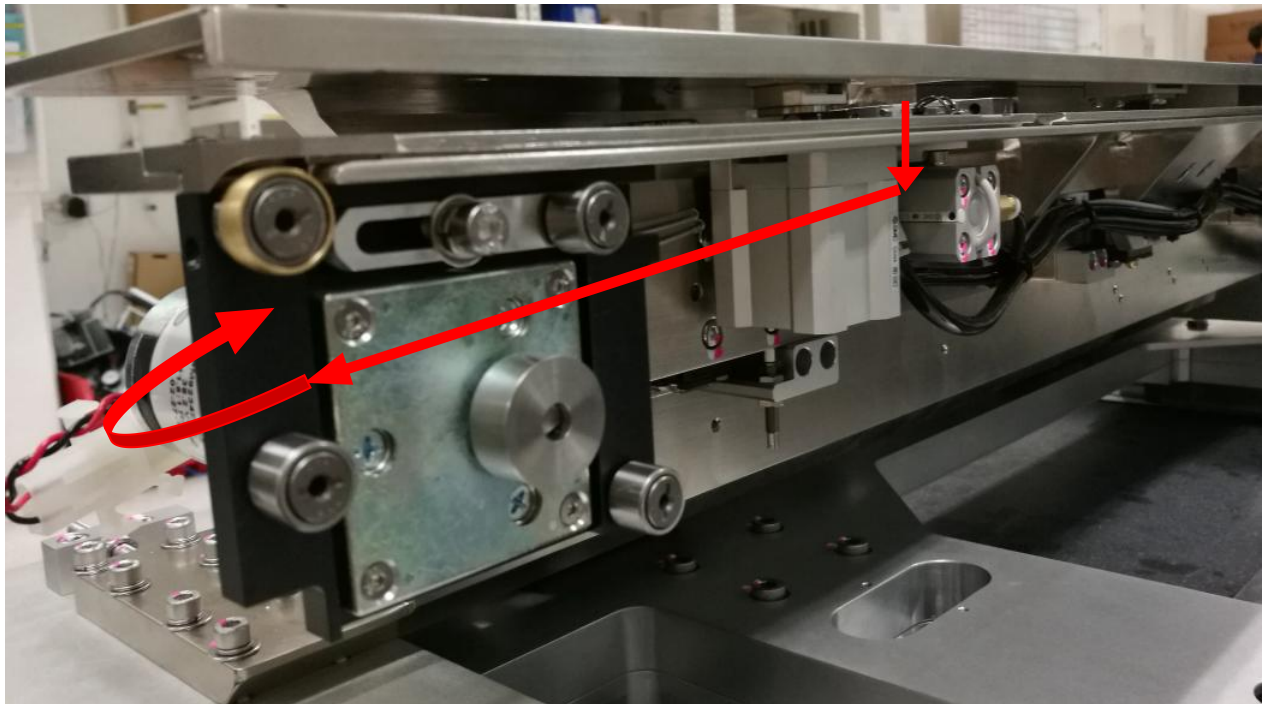
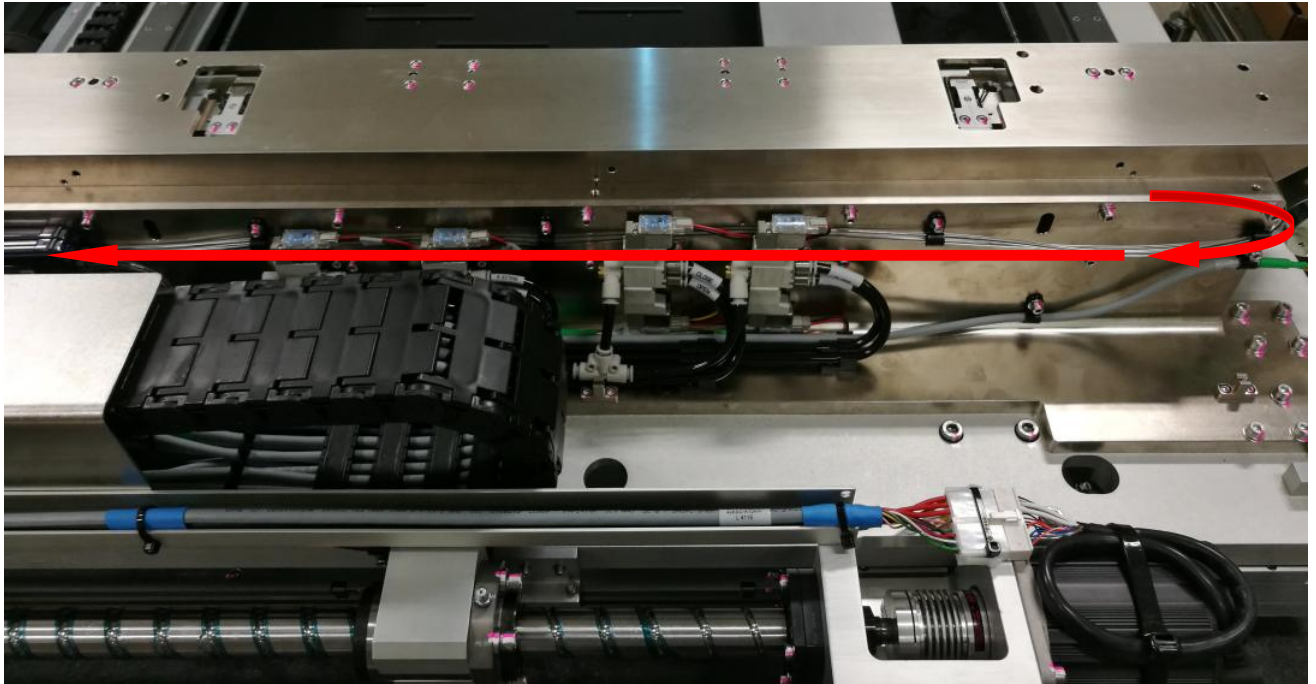

Figure 37 PIP Sensor Cable Routing
Figure 38 PIP Sensor Cable Routing
8. Route PIP Sensor Cable to Right amplifier by refer to below routing. May refer to Figure 37 & Figure 38